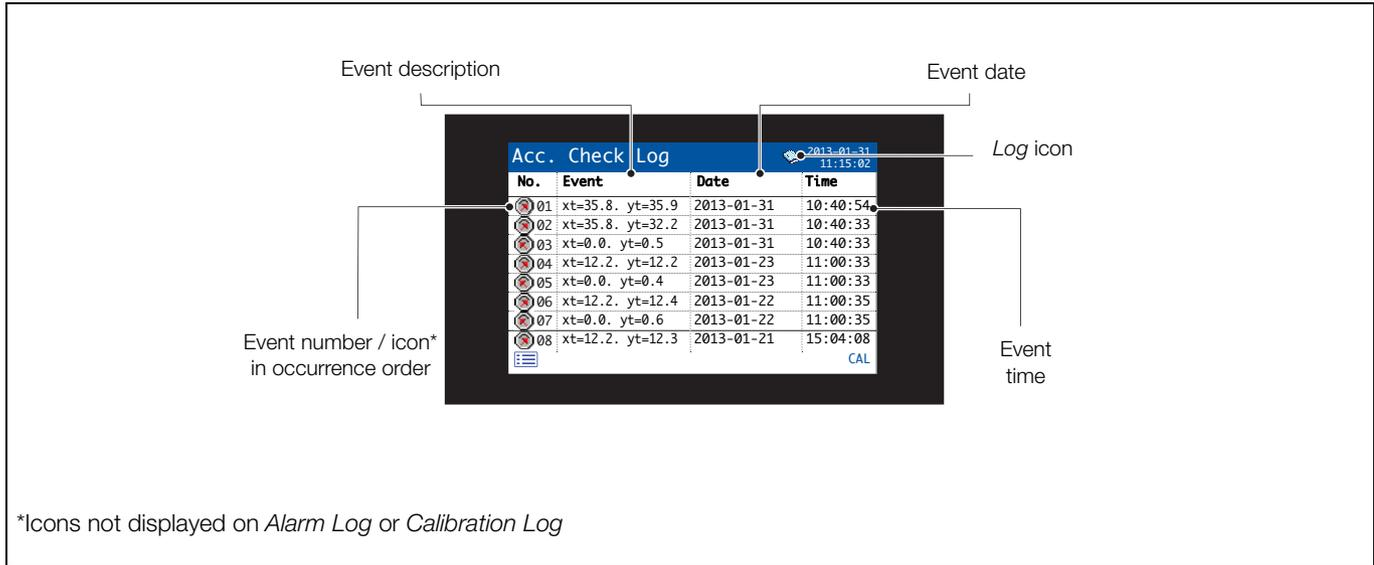

Fig. 9.11 Accuracy check log
- *Accuracy Check Log*: a history of completed accuracy check routines – see Fig. 9.11.